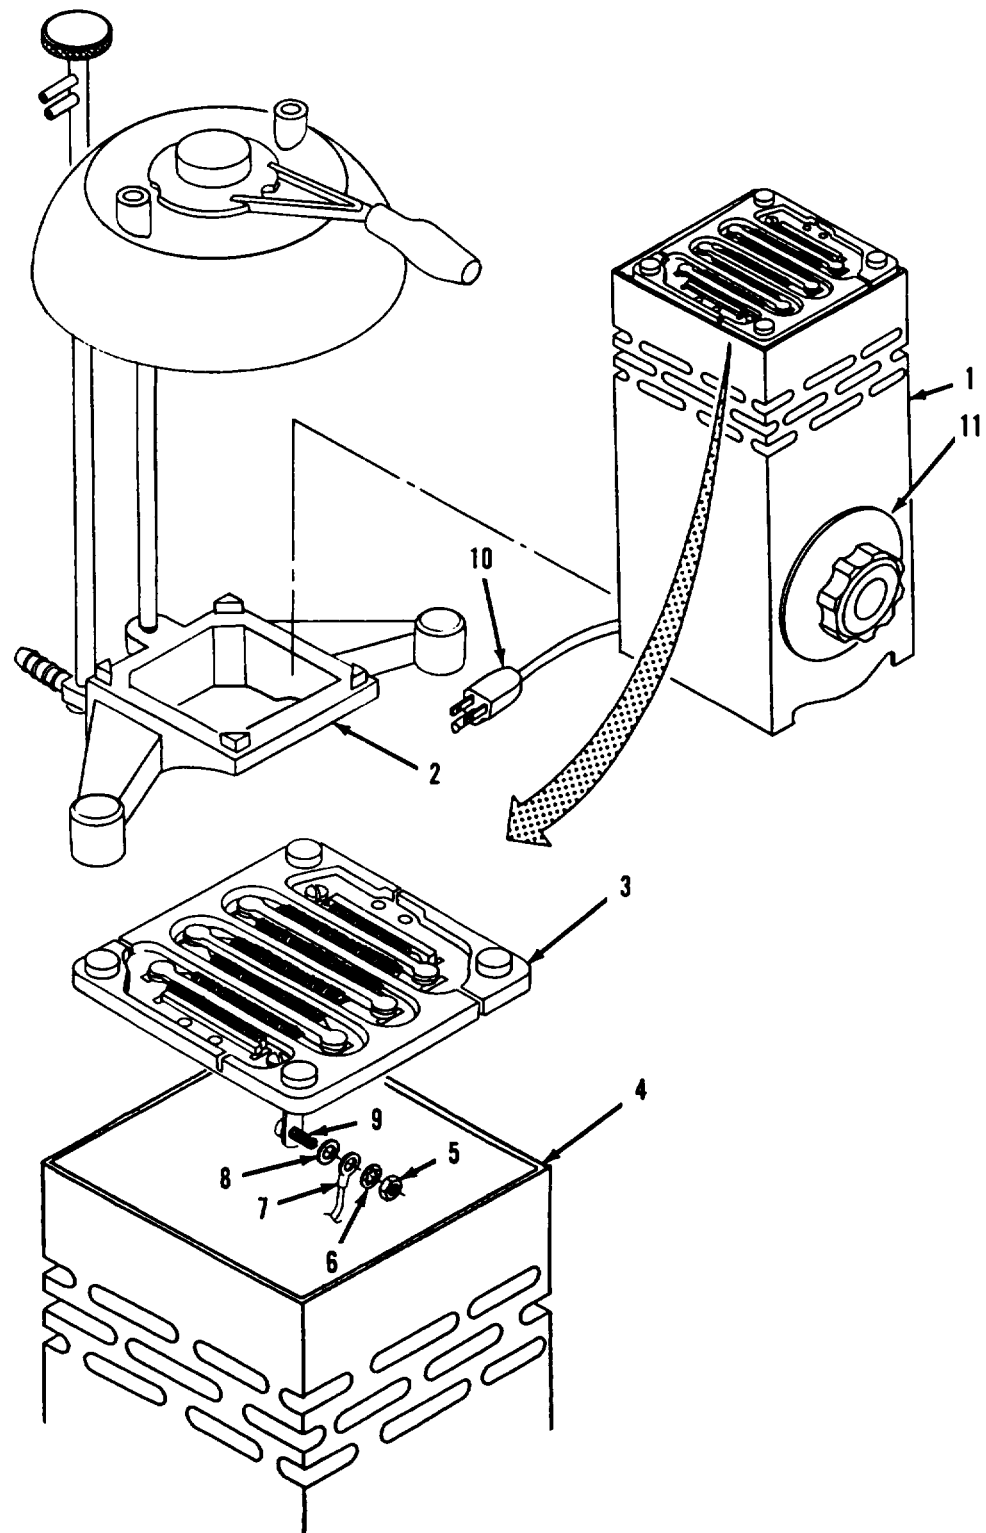

Figure 4-1. Flash Point Heater Element Removal.
- a. Removal. Refer to figure 4-1.
b. Cleaning. Refer to figure 4-1.
- (1) Using wiping rag, remove fuel deposits, oils, and crust from refractory (3).
- (2) Clean sides of heater housing (4) with wiping rag.
c. Inspection. Refer to figure 4-1.
- (1) Inspect heater housing (4) for cracks, dents and evidence of overheating.
- (2) Check for bent or cracked control knob (11). Knob should turn smoothly in both direction.
- (3) Inspect power cord (10) for cuts, tom insulation or damaged plug.